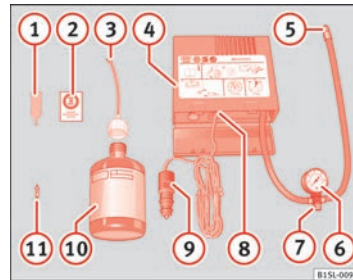

Fig. 146 Standard representation: Contents of the tire mobility set
The tire mobility set is located underneath the floor covering in the luggage compartment. It includes the following components ⇒ Fig. 146:
10. Apply the sticker ⇒ Fig. 146 ② from the tyre mobility set to the dash panel where it can be seen clearly.
- Use the corresponding enclosed extractor ⇒ Fig. 146 ① to unscrew the tyre valve insert. Place the valve insert on a clean surface.
- Vigorously shake the sealant bottle ⇒ Fig. 146 ⑩ for several seconds.
- Screw the inflator tube ⇒ Fig. 146 ③ securely into the sealant bottle in a clockwise direction. The seal on the mouth of the bottle moves automatically.
- Remove the lid from the filling tube ⇒ Fig. 146 ③ and screw the open end of the tube into the tyre valve.
- Screw the valve insert again with the corresponding enclosed extractor ⇒ Fig. 146 ① into the tyre valve.
- Securely screw the tyre inflator tube ⇒ Fig. 146 ⑤ of the compressor in to the tyre valve.
- Check whether the air bleed screw ⇒ Fig. 146 ⑦ is closed. ▶
- Attach the connector ⇒ Fig. 146 ⑨ to a 12 volt socket of the vehicle ⇒ page 117.
- Connect the air compressor with the ON/OFF switch ⇒ Fig. 146 ⑧.
- Keep the air compressor running until it reaches 2.0 to 2.5 bar (29-36 psi / 200-250 kPa) ⇒ ⚠. **Maximum operation time 8 minutes** ⇒ ⑩.
Screw the inflator tube ⇒ Fig. 146 ⑤ again and check the pressure on the gauge ⑥.